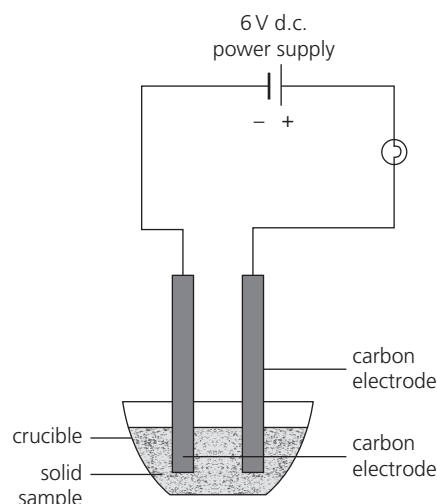

Figure 1
- 2 Set up the circuit as shown in Figure 1 but do not connect the battery or switch on your power supply.
- 4 Add a few spatulas of copper(II) sulfate to the crucible.